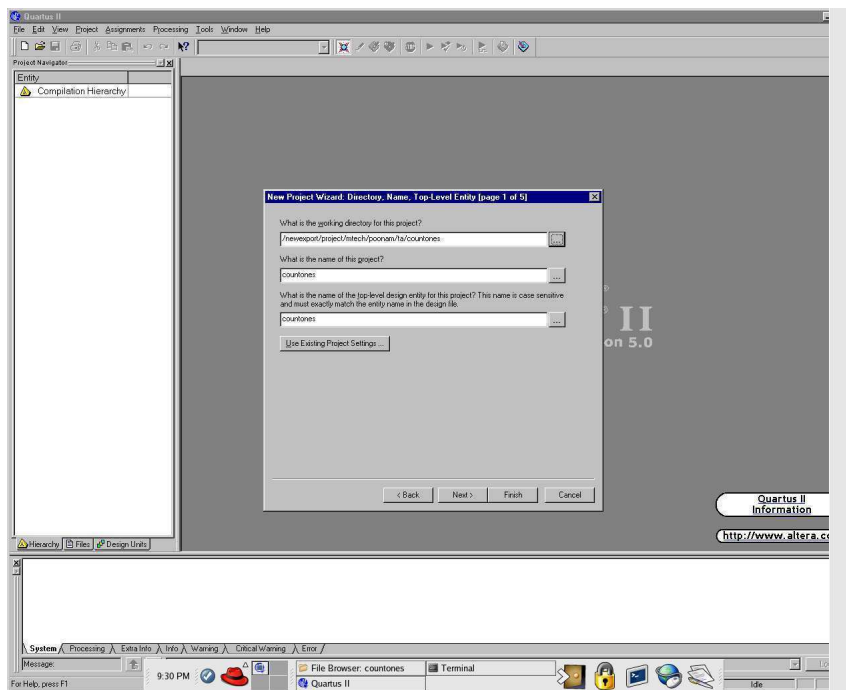

Figure 3: Specify Project name and Directory
3. The window shown in Figure 3 is for specifying the working directory, project and the top-level design names. Make sure that the project name and the top-level design entry are the same.